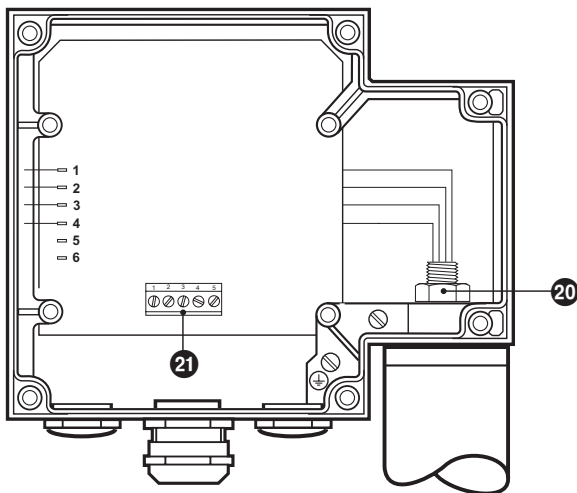

Fig. 15
2. Remove cable lugs from terminal lugs. **Fig. 15**
3. Loosen nut ⑳ with a 19 mm spanner, but do not remove! **Fig. 15**
4. Screw in level electrode as described in items 6 – 9.